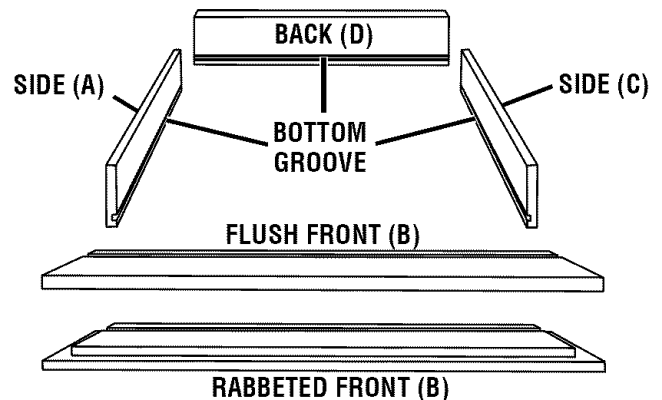

Fig. 11
- Mark the boards for the drawer or box on the inside with identifying letters near the bottom edge. See Figure 11.
- NOTE:** The material for front (B) and back (D) should be the same size and should be cut to fit the opening neatly. The side pieces (A and C) should also be the same size. See the chart on page 8 for computing proper sizes and recommended material thicknesses.